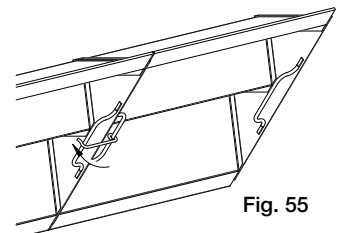

Fig. 55
5. Latch filters together by connecting hooks to handle on next filter; Fig. 55.